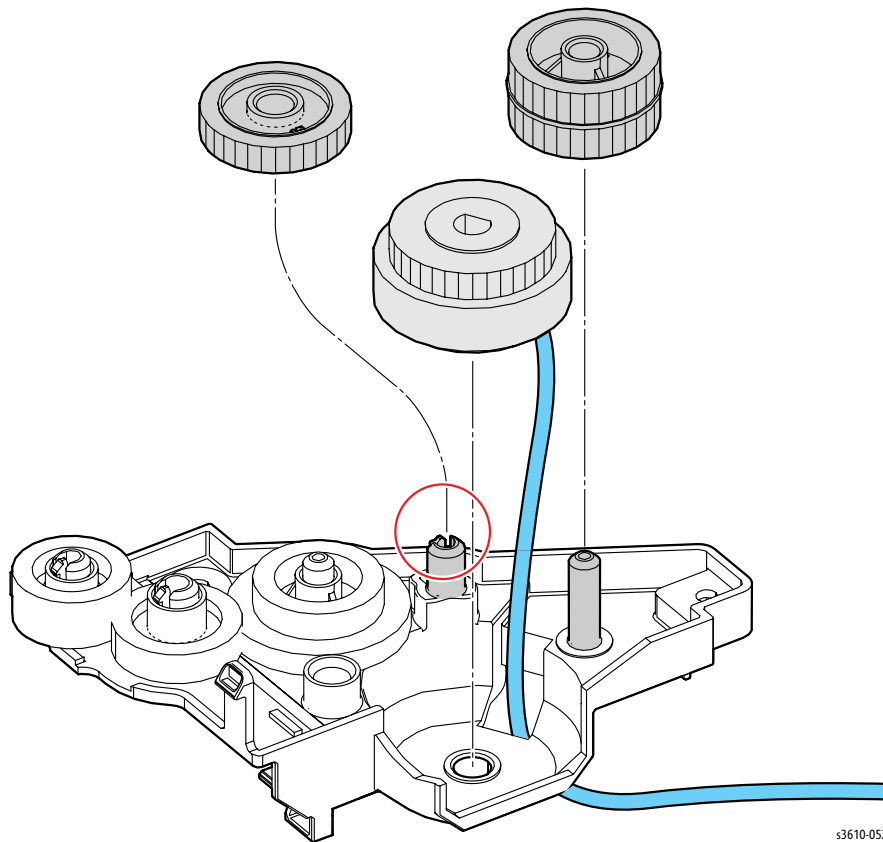

Figure 1
1. Component placement in the Exit Output Drive Assembly is shown below. (Figure 1)
2. Insert the ground strap between the LVPS and frame. Also, when installing the Exit Output Drive Assembly, fit the D-shaped shaft of the Exit Invert Drive Assembly into the D-shaped hole of the exit clutch. (Figure 1)